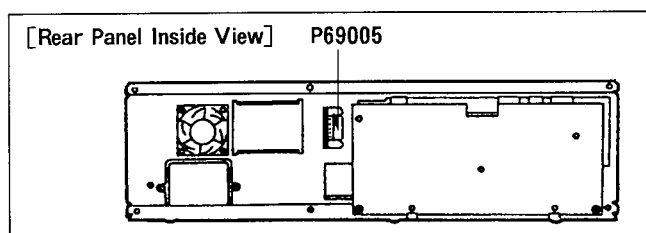

Figure D7
2. Lift the 9 Pin Connect C.B.A. and pull out the connector (P69005). (Figure D7)